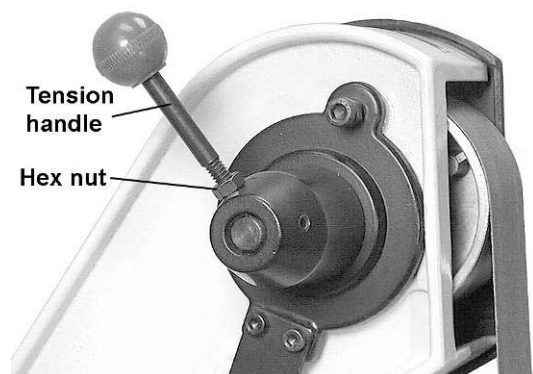

Figure 6
2. Screw the tension handle into the hole on the hub, then tighten the hex nut against the hub. See Figure 6.
4. Rotate the tension handle (Figure 6) to loosen the belt, and remove the old belt from around the wheels.